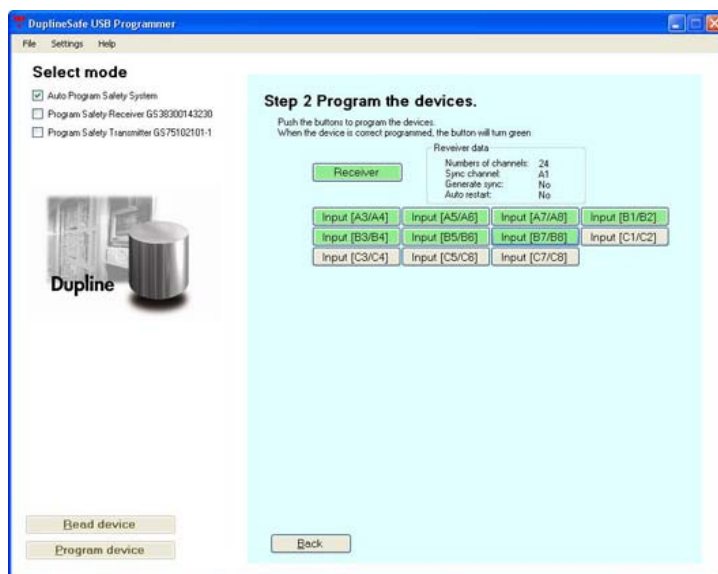

Figure 18
Step 2 is to program the devices. The configuration above decides how many devices that needs to be programmed. Connect the device to the USB Converter box and then push the button that represents the device to be programmed. The button turns green when the device has been successfully programmed (Figure18).